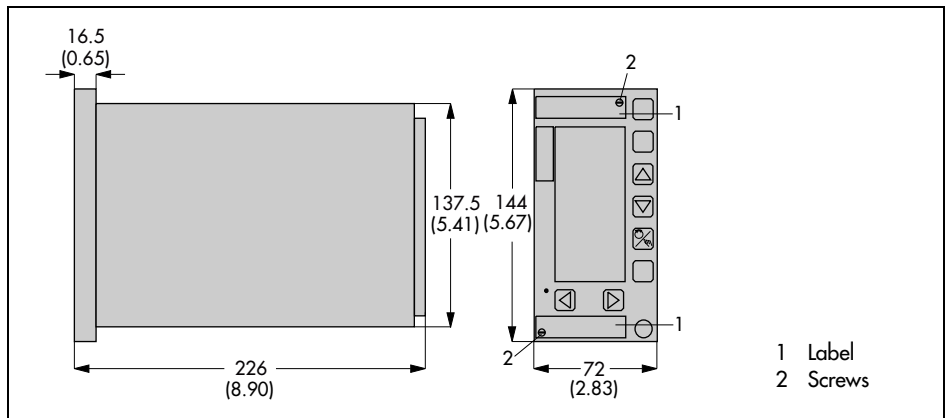
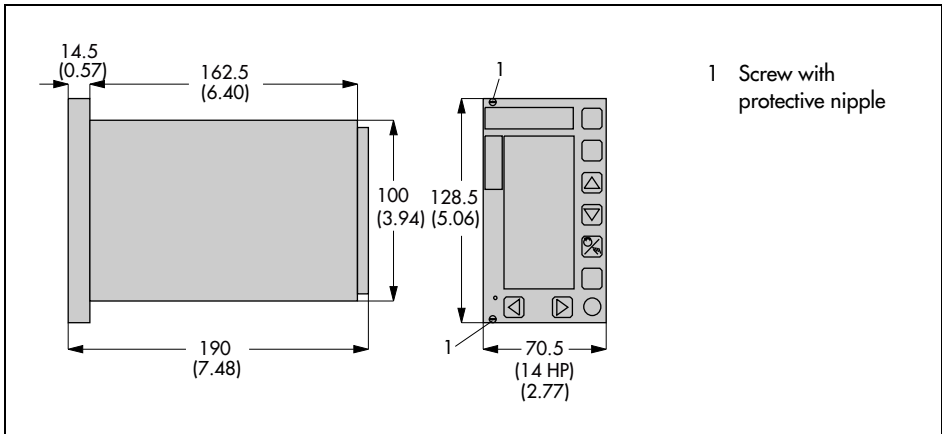

Fig. 3 · Dimensions (panel-mounting unit)
Fig. 4 · Dimensions of the 19inch rack-mounting unit
2. Secure the process control station to the rack unit by fastening it from the front, using two screws (see 1, Fig. 4 ).
1. With panel-mounting cases, remove small paper labels (see 1, Fig. 3 ) if necessary. With 19inch rack-mounting units, remove the two protective nipples. Unscrew the two screws located on the front-panel of the case (see Fig. 3 or Fig. 4 , depending on the type of case).